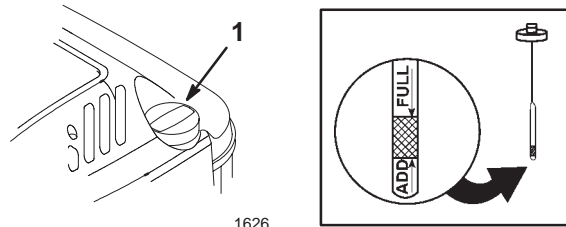

Figure 10
Before each use, ensure that the oil level is between the Add and the Full marks on the dipstick (Fig. 10).
2. Clean around the dipstick (Fig. 10).
6. Read the oil level on the dipstick (Fig. 10).